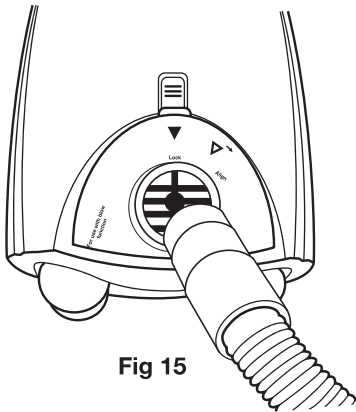

Fig 15
4. To attach the hose to the blower port, align the flexible hose and turn counter-clockwise until it stops. The hose is now securely in place. (Fig.15)